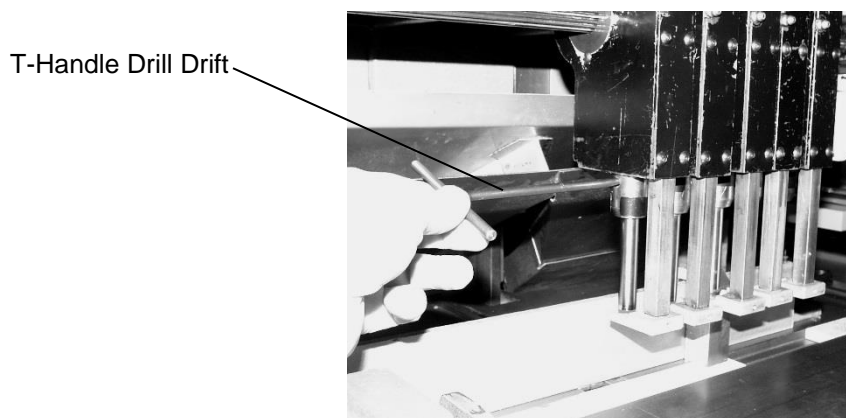

Figure 10
**TO REMOVE :** Slide the drift hole cover to expose the drift hole in the side of the spindle. Insert the T-handle drill drift into the hole with the flat side down and lift up. (It may be necessary to also twist the handle.) (Figure 10, below)